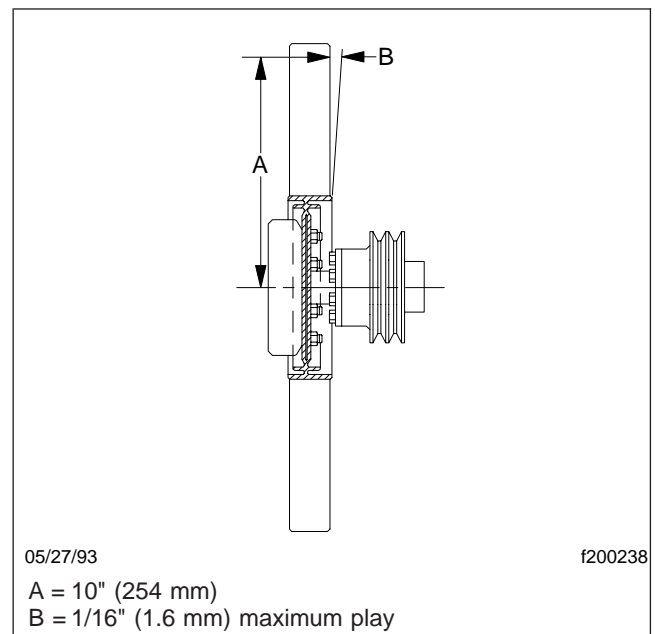

Fig. 8, Checking Schwitzer Viscous Fan Drive Wear
6. Move one blade tip alternately toward and away from the radiator. The allowable play is 1/16 inch (1.6 mm) at a 10-inch (254-mm) radius from the center of the fan. See **Fig. 8**. If there is greater movement, and it can not be traced to loose fasteners or fan hub pulley bearing wear, replace the fan drive.